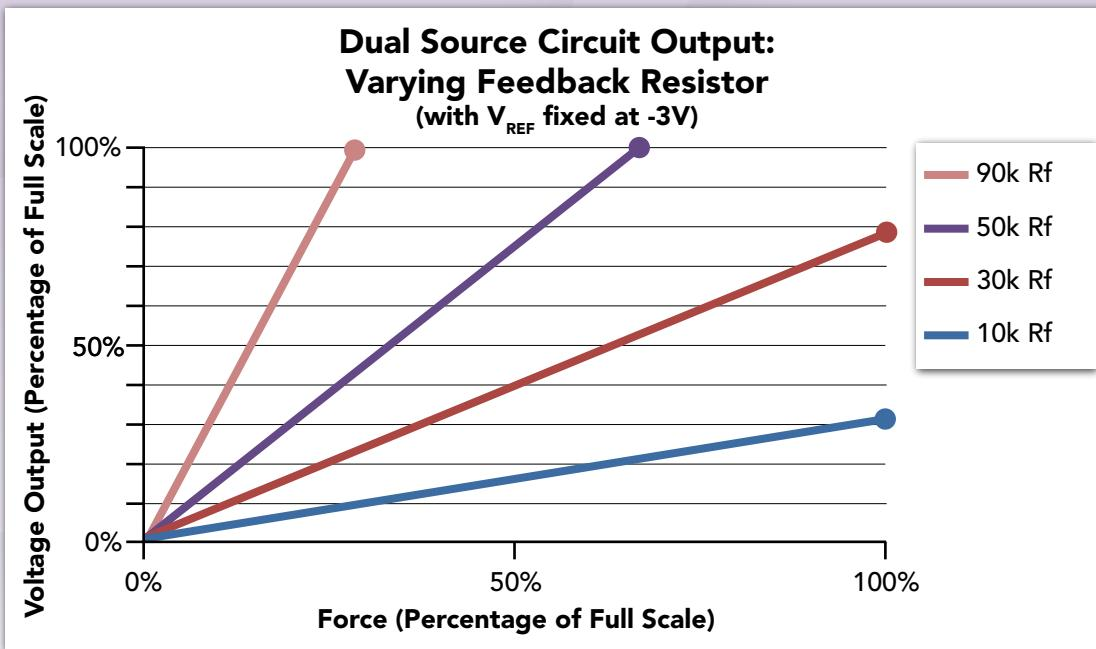
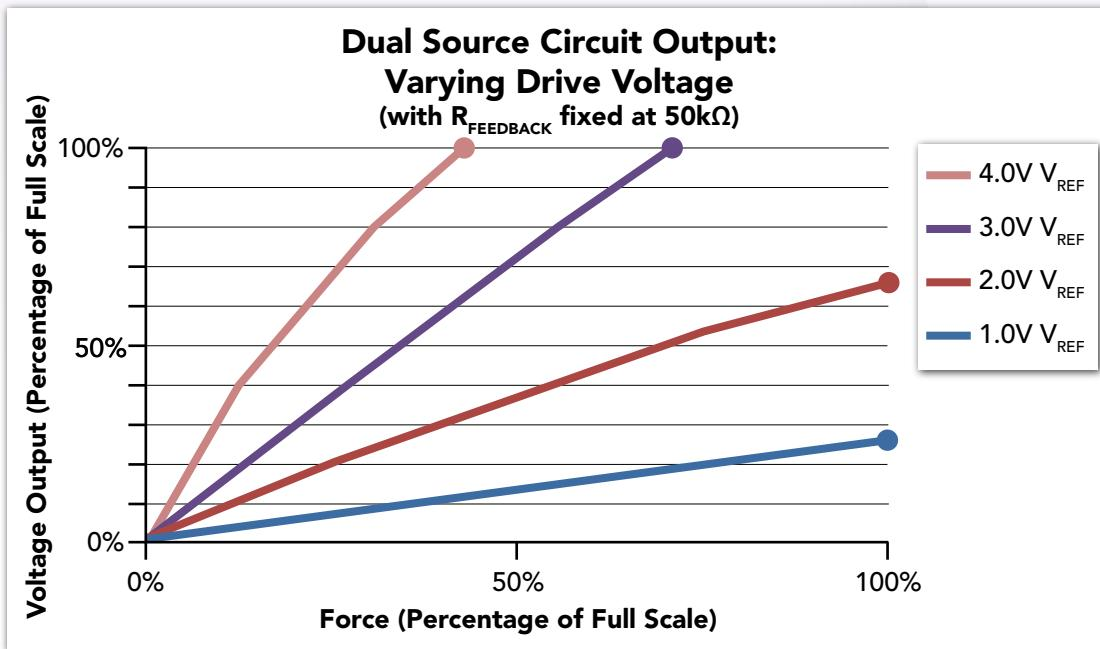

FIGURE 12
FIGURE 13
**Fig. 12** shows the relationship of the output voltage vs. force applied to the sensor with drive voltage,  $V_{REF}$  fixed at -3 volts. By inspecting this graph, it is seen that decreasing  $R_f$  decreases the sensitivity of the circuit output for a given force (extended force range). Conversely, larger  $R_f$  values increase the slope of the voltage output versus force curve and therefore increase the sensitivity of the circuit (decreased force range). **Fig. 13** shows the  $V_{OUT}$  versus Force relationship with a varying drive voltage,  $V_{REF}$  and fixed  $R_f$  resistance value of  $50\text{k}\Omega$ . Similarly to the effects of varying the feedback resistor value, an increase drive voltage will result in higher sensitivity (decreased force range) and a decreased voltage will result in lower sensitivity (extended force range).